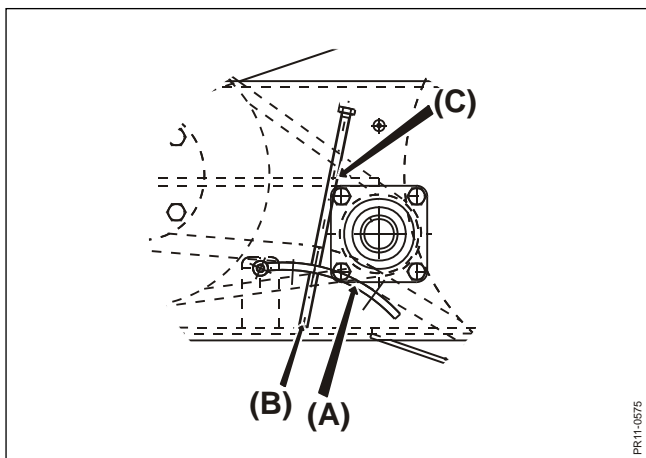

Fig. 9.5
- Fig. 9.5** Tightening of 1 1/4" chain: chain tightener (A) at the bottom of the chain box must be lifted which is made by adjusting the bolt (B). **REMEMBER** to mount the pin C after adjustment as it prevents the bolt from turning.